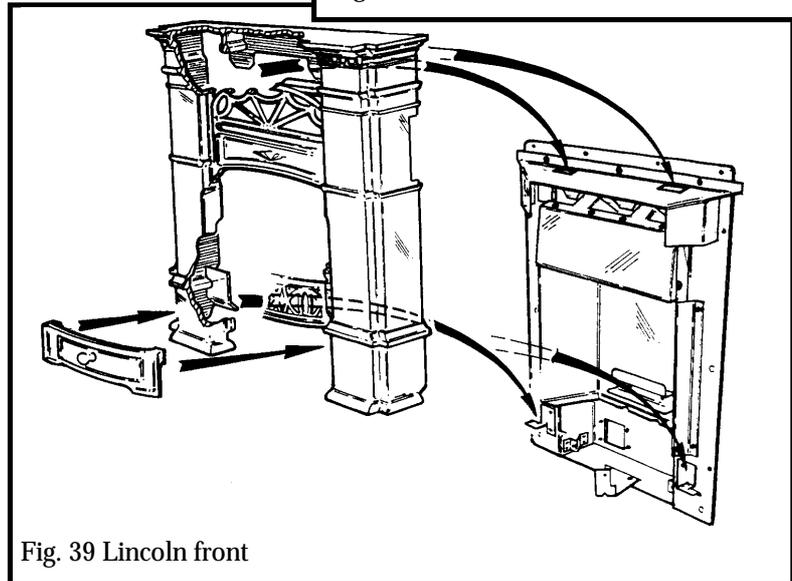

Fig. 39 Lincoln front
13.3.2.2 Raise the Cast front surround so that the lugs in the lower case support brackets and upper location plate are released from their locations in the fire unit – See figure 39. Lift the cast front clear and place safely.
Gently lower the cast front onto the hearth making sure that it causes no damage to the hearth or fireplace surround. The cast front should sit squarely on the hearth and against the vertical surface of the fireplace. See figure 39.